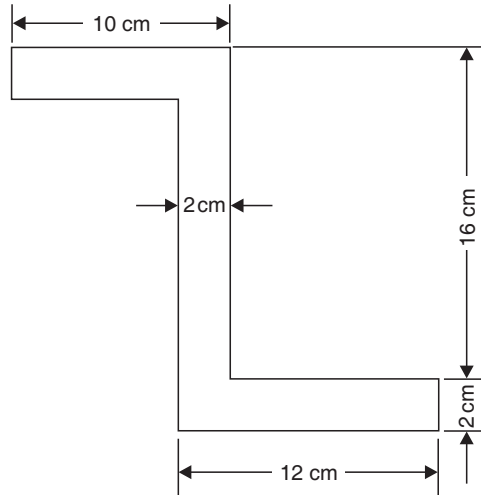

Fig. 4.24
**Example 4.5.** Determine the centroid of the lamina shown in Fig. 4.24.